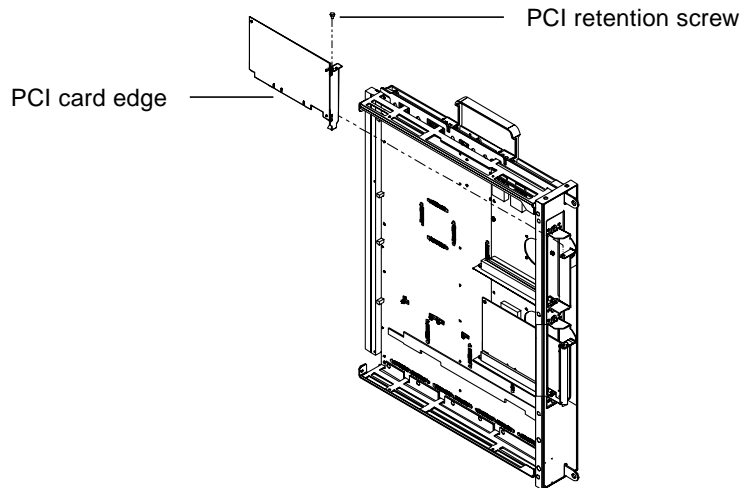

FIGURE 15 PCI Card Installation
5. Guide the PCI card from behind the system board faceplate, through the opening, and place the PCI card edge into the mating connector. See FIGURE 15.
7. Install the PCI retention screw into the top flange and tighten to a torque setting of 0.8 Nm (7.1 inch-pounds). See FIGURE 15.